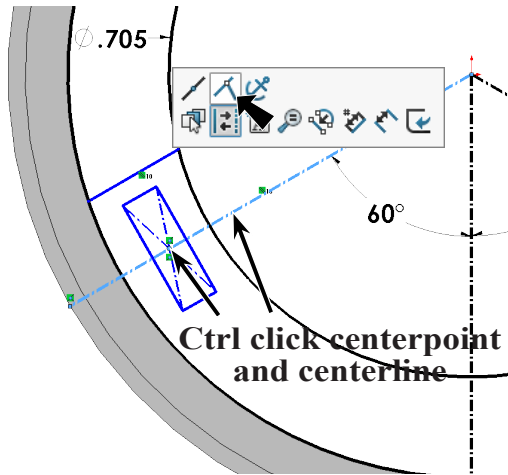

Fig. 19
Step 18. **Ctrl click centerpoint of rectangle and angled centerline** to select both. Release Ctrl key and click **Make Coincident**  on the context toolbar, **Fig. 19**.